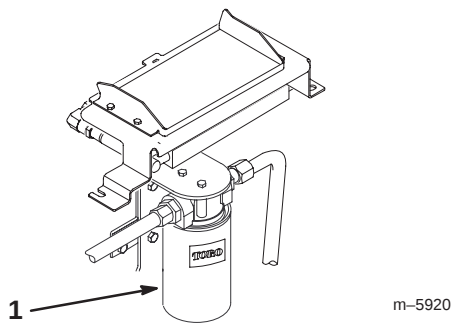

Figure 45
5. Place a drain pan under the filter (Fig. 45).
6. Remove the old filter (Fig. 45) and wipe the surface of the filter adapter gasket clean.
8. Install the replacement hydraulic filter onto the filter adapter (Fig. 45). Tighten it clockwise until the rubber gasket contacts the filter adapter, then tighten the filter an additional 3/4 turn.